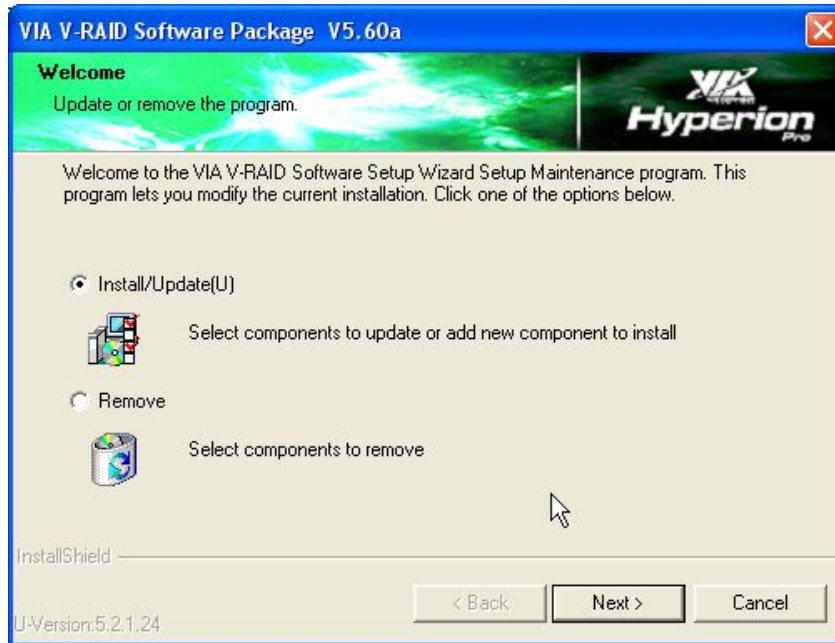

Figure 7-31: Install Wizard Welcome Screen
Step 4: Once initialized, the **Install Wizard** welcome screen appears (Figure 7-31).